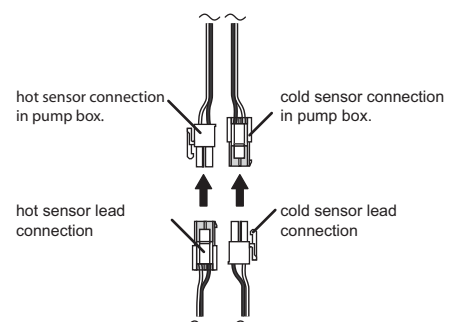

Figure 37 - Temperature Sensor Leads
1. Ensure hot and cold sensors are connected as shown in *Figure 37*.